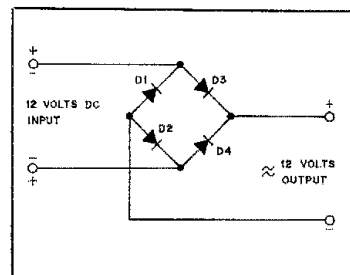

Fig. 3 — A bridge rectifier can provide positive protection against reverse-voltage connections to your rigs.
□ Stop worrying about reverse-polarity voltage on your mobile rigs. This circuit will make reverse polarity an impossibility. I use a 25-A bridge rectifier. The output of the bridge rectifier is connected to the rig permanently, observing the correct polarity. A 12-V supply is connected to the ac input of the bridge, and polarity is not important. The voltage to the rig will be slightly less than the input voltage, depending on the voltage drop of the diodes. See Fig. 3. — *Henry Leggette, WB4MNW, Memphis, Tennessee*